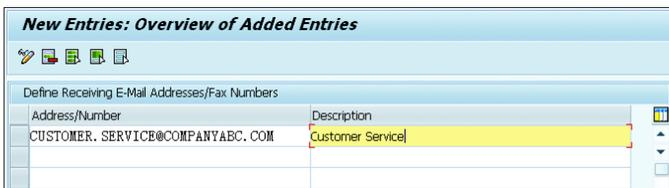

Figure 9.40 Defining the Receiving Email Address
2. Create the receiving email address that the customer is going to use to send an email to the organization. This is maintained in the SAP menu; choose INTERACTION CENTER • E-MAIL RESPONSE MANAGEMENT SYSTEM • SETTINGS • DEFINE RECEIVING E-MAIL ADDRESSES/FAX NUMBERS (see Figure 9.40). Enter the DESCRIPTION.